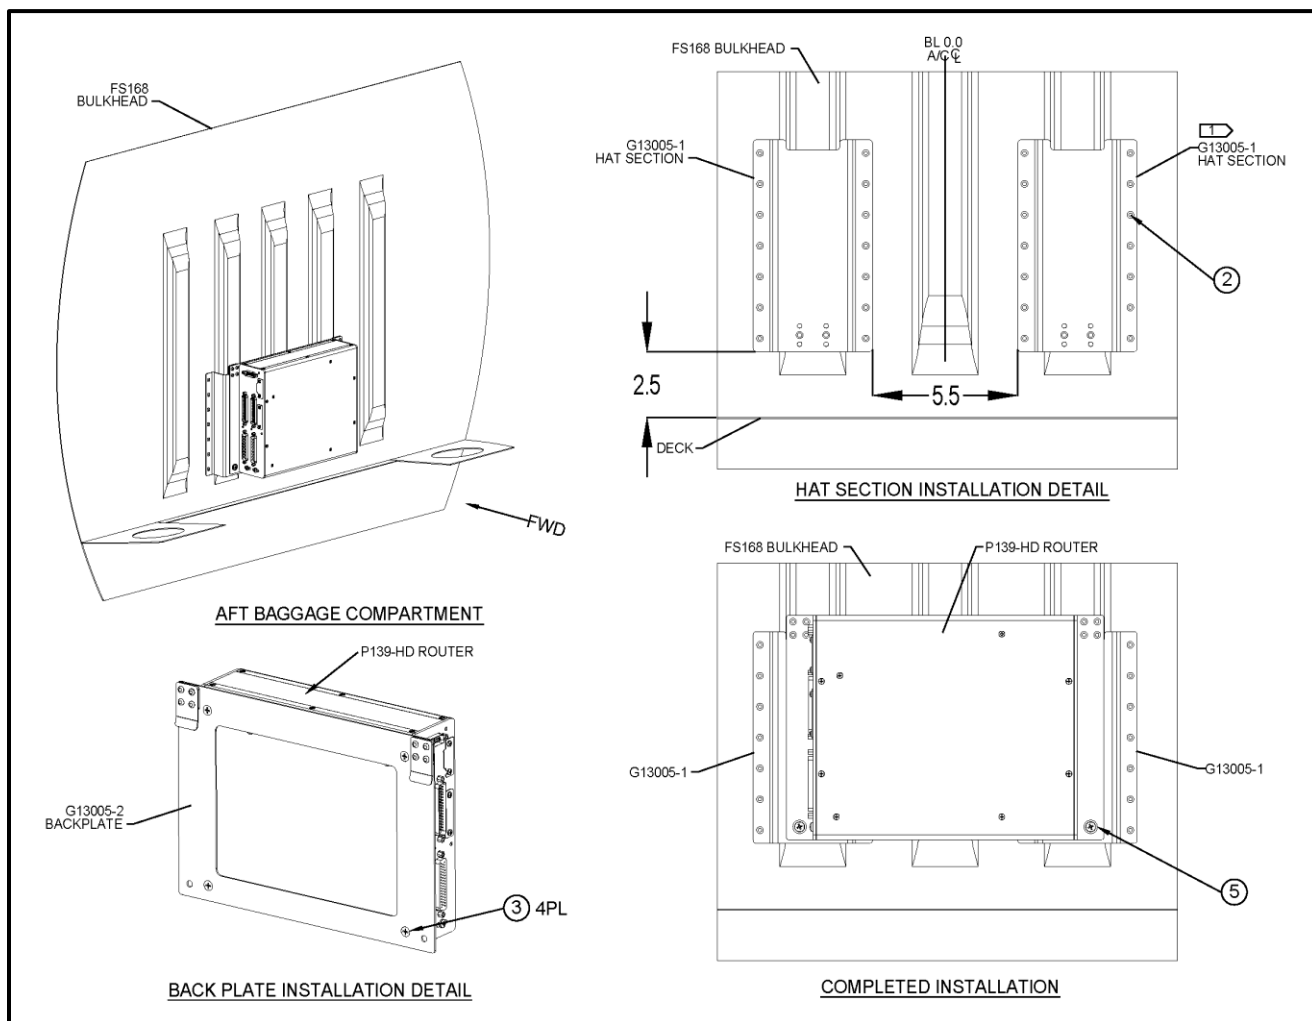

Figure 17: AS350/AS355 Digital Router Installation
- b. Remove the two AN525-10R8 screws (I/N 5) holding the Backplate to the Hat Sections as shown in Figure 17.
- c. Lift the Router/Backplate assembly out of the slots located on the Hat Sections connected to the FS168 Bulkhead as shown in Figure 17.
- d. Remove the Backplate from the Router by removing the 4 #10-32 MS24693S272 Flat Head Screws (I/N 3) connected to the Router as shown in Figure 17.
- e. To remove the Hat Section Brackets drill out the 14 #4 Rivets connecting each bracket to the FS168 Bulkhead as shown in Figure 17.
Parts List for Figure 17:
- a. Before installing new Hat Sections, assemble with G13005-2 Back Plate to maintain proper spacing. Locate G13005-1 Hat Sections over two of the stiffening ribs as shown in Figure 17. Back drill two mounting holes in bulkhead and Cleco in place. Remove back plate.
- b. For each Hat Section, back drill bulkhead and install 14 #4 Rivets, MS20470AD4-4 as shown in Figure 17.
- c. Connect the Digital Router (P/N G13000 or G13160) to the Back Plate (G13005-2) using 4 MS24693S272 Screws as shown in Figure 17.
- e. Secure the Backplate to the hat sections using two AN525-10R8 screws as shown in Figure 17.